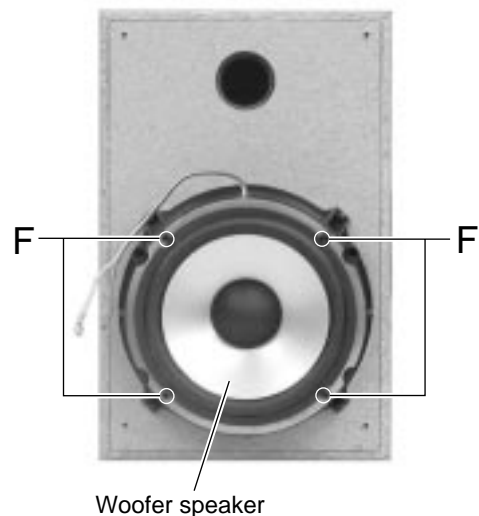

Fig.7
**■ Removing the woofer speaker (See Fig.7)**